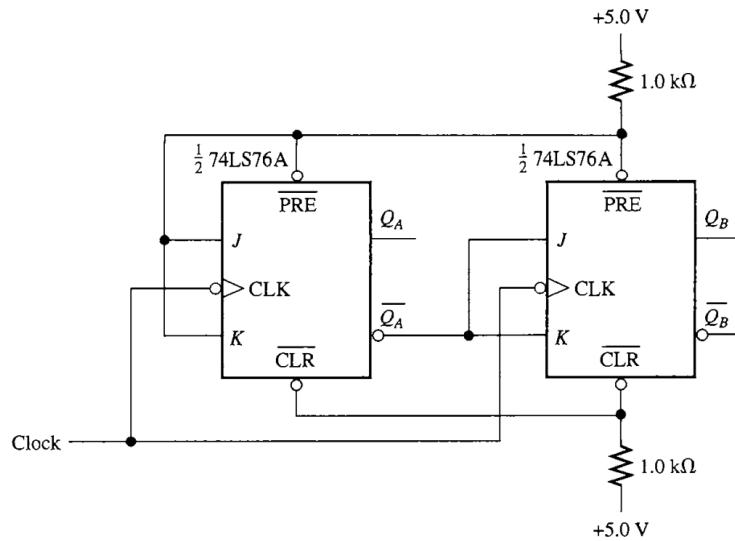

Figure 13.7
2. Determine the sequence of the counter shown in Figure 13.7 and draw the state diagram.